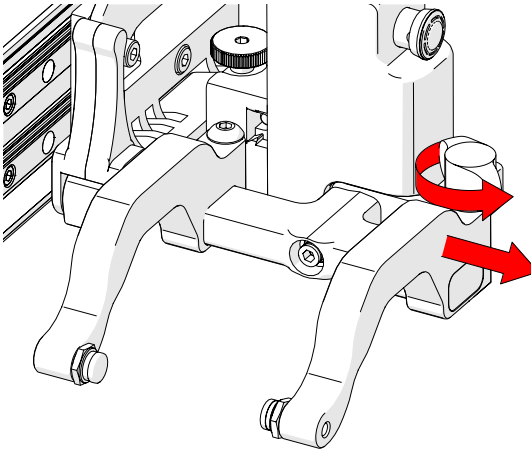

Fig. 172 - Remove outer arm
3. Loosen the probe holder adjustment knob and remove the outer probe holder arm (Fig. 172).